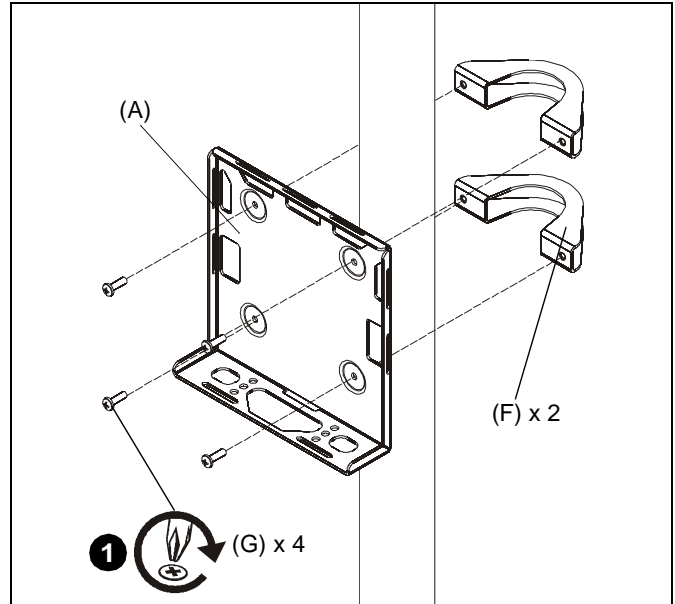

Figure 2
1. Use four #10-24 x 5/8" Phillips pan machine screws (G) and two pole brackets (F) to secure media player mount (A) to pole at desired mounting height. (See Figure 2)